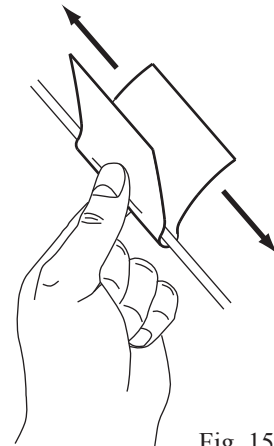

Fig. 15
- 8: Clean the butt connector and at least two (2) inches of the wires on either side with the alcohol swab (Fig. 15).